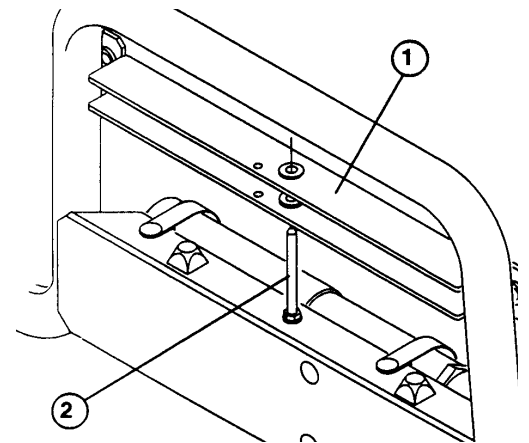

Figure 10
- B. Remove the bed support from the storage stud on top of back rest support channel on the Workman (Fig. 10).